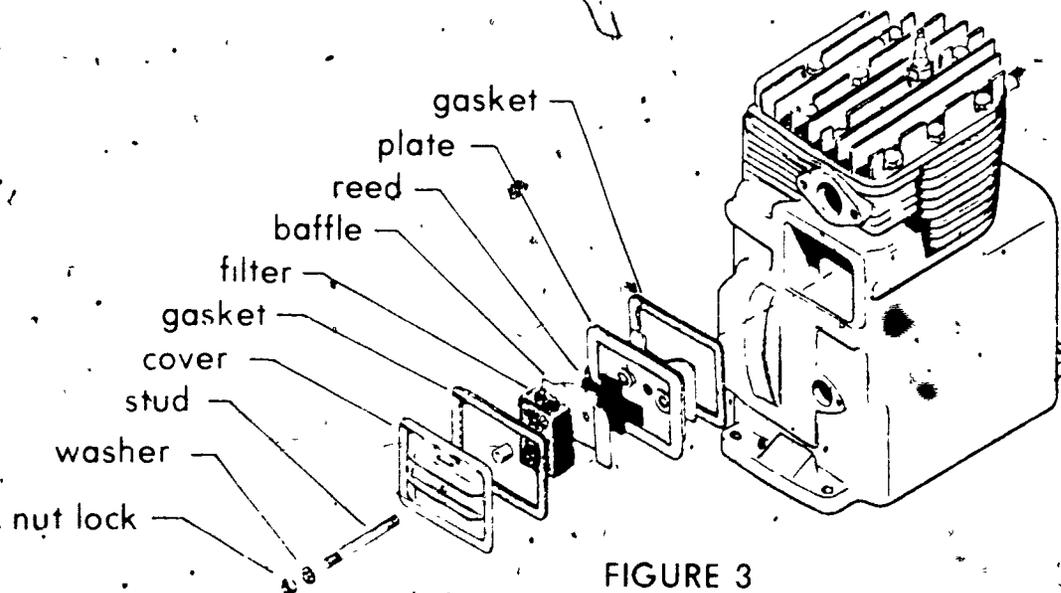

FIGURE 3
- F. Disassemble crankcase breather (Figure 3)